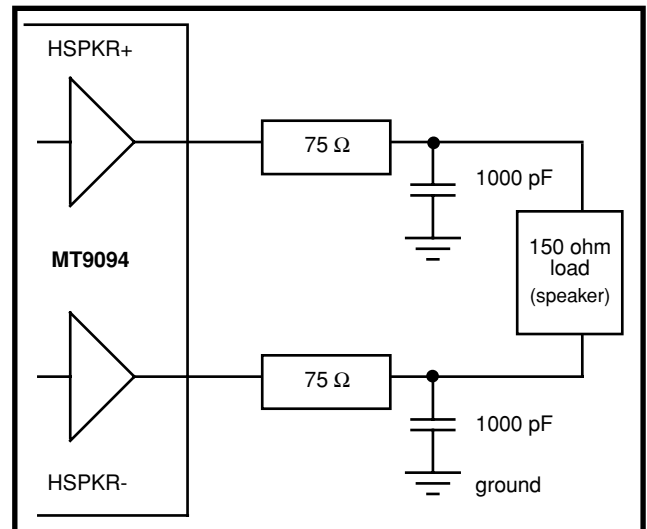

Figure 4 - Handset Speaker Driver
- ◆ The handset speaker outputs (receiver), pins HSPKR+/HSPKR-. This internally compensated, fully differential output driver is capable of driving the load shown in Figure 4. This output is enabled/disabled by the HSSPKR EN bit residing in the Transducer Control Register (address 0Eh). The nominal handset receive path gain may be adjusted to either -12.3dB (suggested for μ -Law) or -9.7dB (suggested for A-Law). Control of this gain is provided by the RxA/ \bar{u} control bit (General Control Register, address 0Fh). This gain adjustment is in addition to the programmable gain provided by the receive filter and DSP.